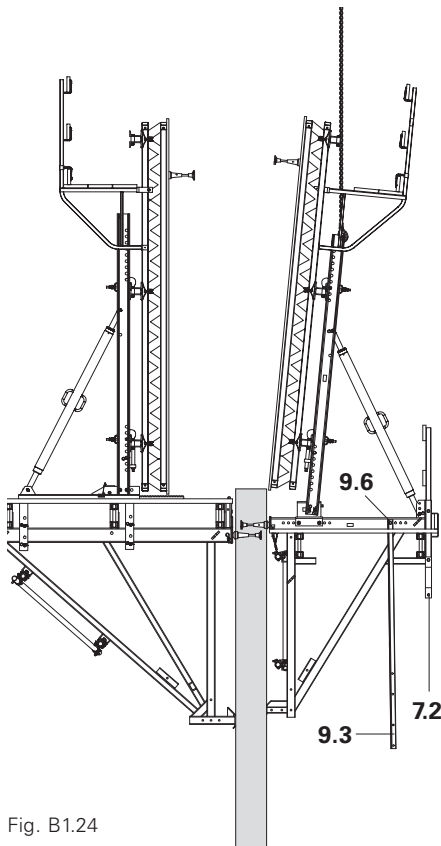

Fig. B1.24
2. Attach platform unit to strongback and lift out of the anchoring. Do not exceed crane capacity, see B4. (Fig. B1.24)